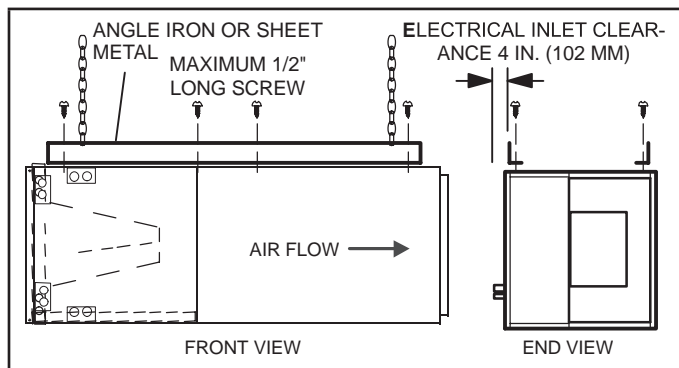

FIGURE 3. Suspending Horizontal Unit
- 5 - If the unit is suspended, the entire length of the cabinet must be supported. If you use a chain or strap, use a piece of angle iron or sheet metal attached to the unit (either above or below) to support the length of the cabinet. Use securing screws no longer than 1/2 inch to avoid damaging the coil or filter. See figure 3. Use sheet metal screws to connect the return and supply air plenums as required.
- 14 - If suspending the unit, it must be supported along the entire length of the cabinet. If using chain or strap, use a piece of angle iron or sheet metal attached to the unit (either above or below) so that the full length of the cabinet is supported. Use securing screws no longer than 1/2" to avoid damage to coil or filter, as illustrated in figure 3. Connect return and supply air plenums as required using sheet metal screws.